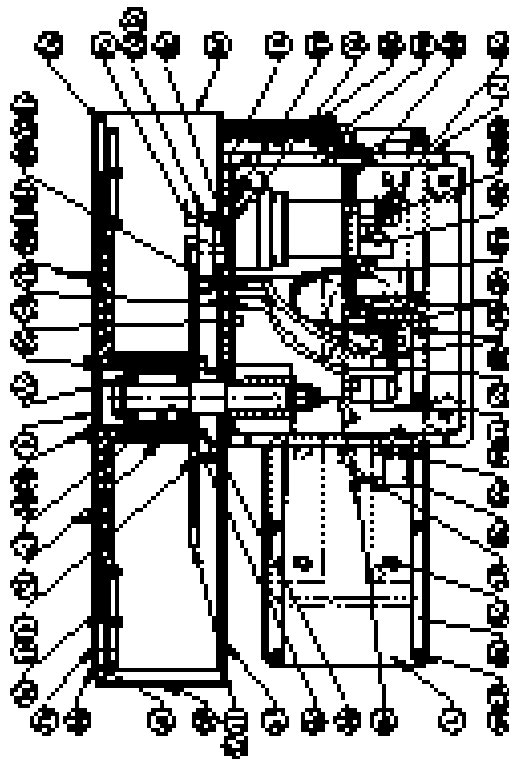

Fig. 14-2 Automatic Tool Changer - Mechanical Assembly
4. Using the large-blade flat tip screwdriver, push up on the bolt holding the cam follower (Item 63, Fig. 14-2). Do this to engage shuttle completely to the in position.
on the tool changer holding plate (Item 9, Fig. 14-2) until ATC is fully engaged on the tool holder.
1. To check levelness, place the level on the machined surface directly in front of the Geneva drive motor (Item 71, Fig. 14-2) and read the level. It should be within one increment of the level. If it is not, remove the three 10-32 x 1/2" SHCS holding the Z-axis way cover to the spindle head casting and slide to the lowest position.
3. Remove the hex bolt that attaches the cam follower to the slip clutch (Item 63, Fig. 14-2).
5. Loosen the nut inside the shuttle casting (Item 57, Figure 14-2) that attaches the ATC carousel assembly to the casting. There is a socket head in the top of the shaft to hold it stationary while loosening the nut.
8. Install the Tool #1 standoff (Item 21, Figure 14-2) on the replacement Geneva star.
4. Loosen the nut inside the shuttle casting (Item 57, Figure 14-2) that attaches the ATC carousel assembly to the casting. There is a socket head in the top of the shaft to hold it stationary while loosening the nut.